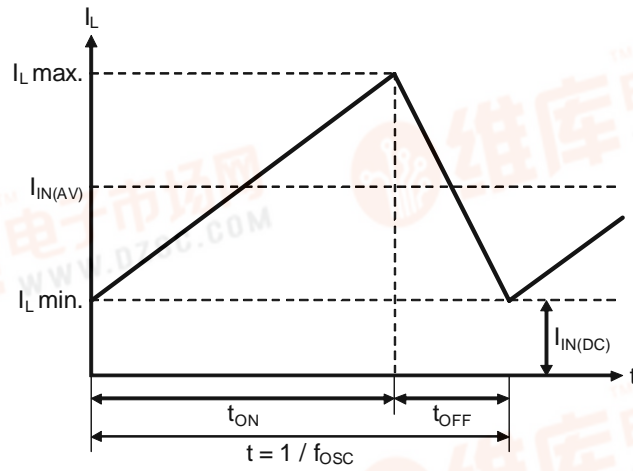

Figure 15 Continuous Mode (Current Cycle of Inductor Current  $I_L$ )
When the Nch power MOS FET is turned on, current (I1) flows in the direction shown in **Figure 14**. The inductor current (IL) at this time gradually increases in proportion with the ON time (tON) of the Nch power MOS FET, as shown in **Figure 15**.
From **Figure 15** :
Above, the continuous mode is the operation mode when IIN(DC) > 0 as shown in **Figure 15** and the inductor current continuously flows.